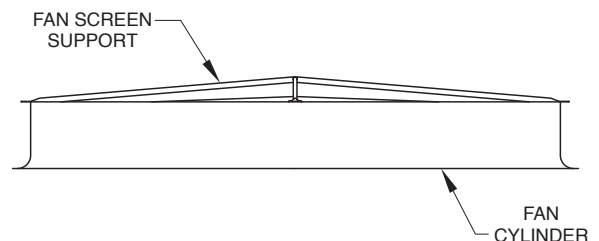

Figure 24 – Support Frame Installation
1. Set the support frame across the top of the discharge cylinder (See Figure 24).